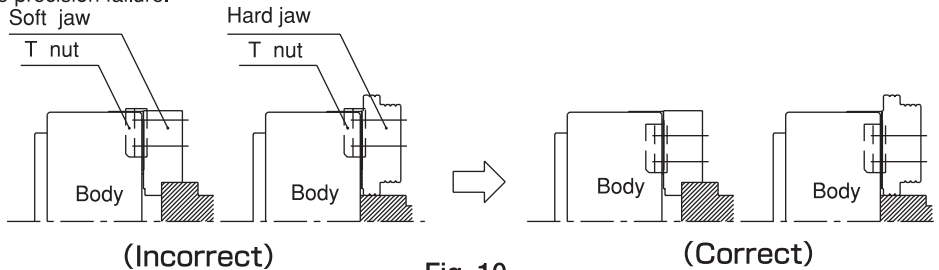

Fig. 10
- Use the T nut so that it does not come out from the master jaw. (Refer to Fig.10)